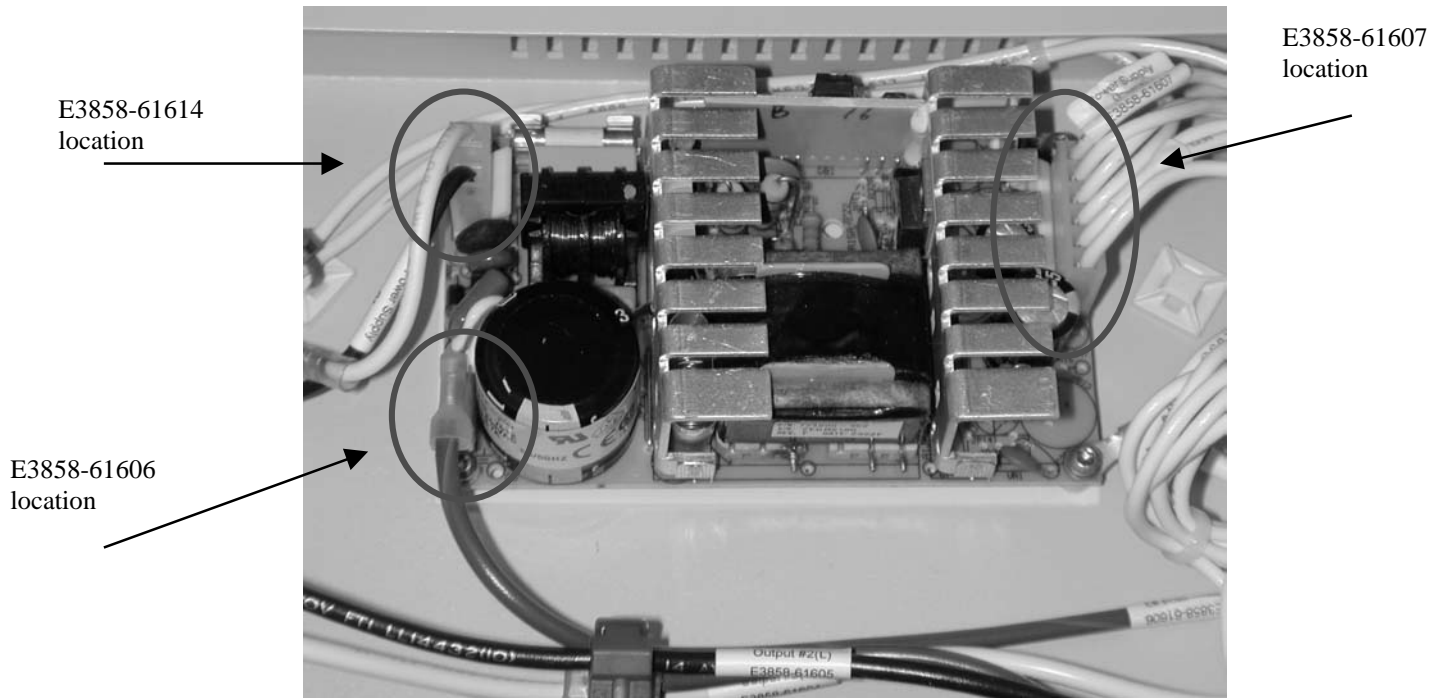
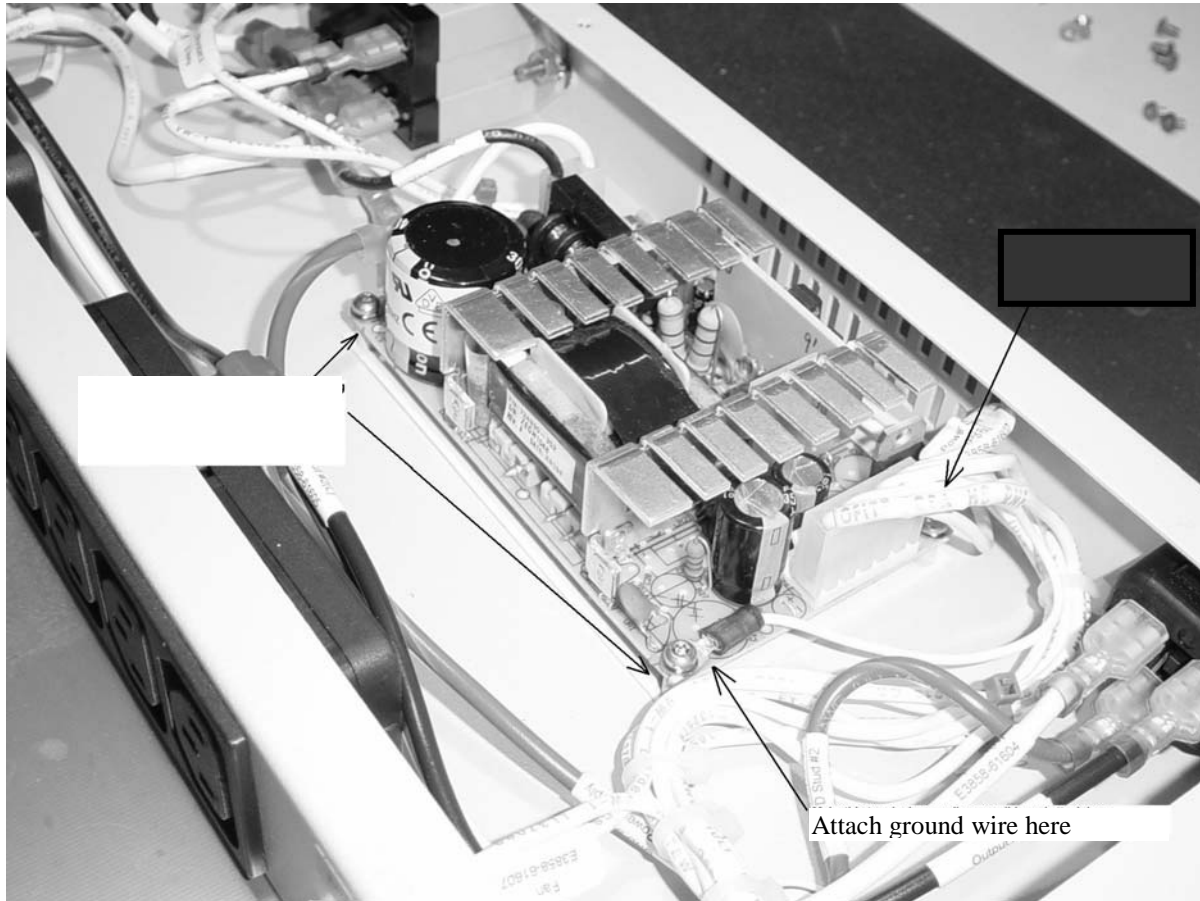

Figure 2. Removing Power Supply Cabling.
Figure 10. Re-installing the Power Supply and Connecting the Ground Wire to the Post.
- Remove the connections to the PDU power supply as shown in Figure 2.
- Reinstall the power supply in the PDU chassis using the four screws. Attach the ground wire from the pin 6 wire to the post as shown in Figure 10. Reattach cables E3858-61614, E3858-61607, and E3858-61606 that were removed previously (Figure 2).